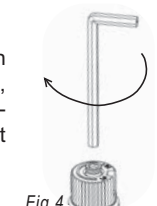

Fig. 4
15) Using the Allen wrench as shown in Fig.4, rotate the screw clockwise until snug, do not overtighten.